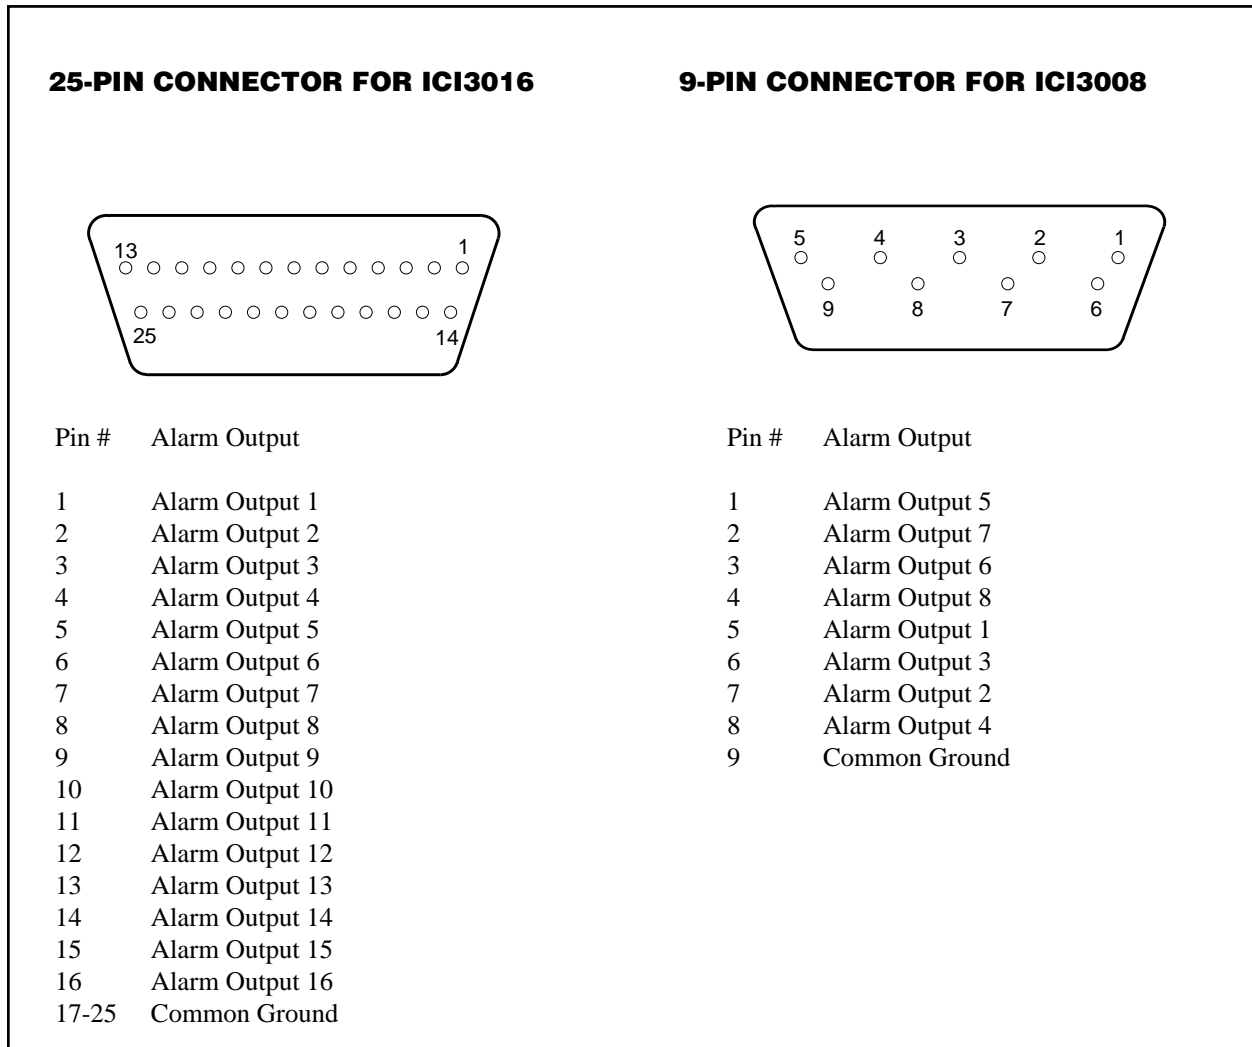

Figure 5. Alarm Pin-Out Configurations
6. Connect the desired alarm outputs to any peripheral equipment requiring a normally open contact. (Refer to Figure 5 for pin assignment information.)
For detailed 25-pin and 9-pin alarm pin-out configuration information, see Figure 5 below.